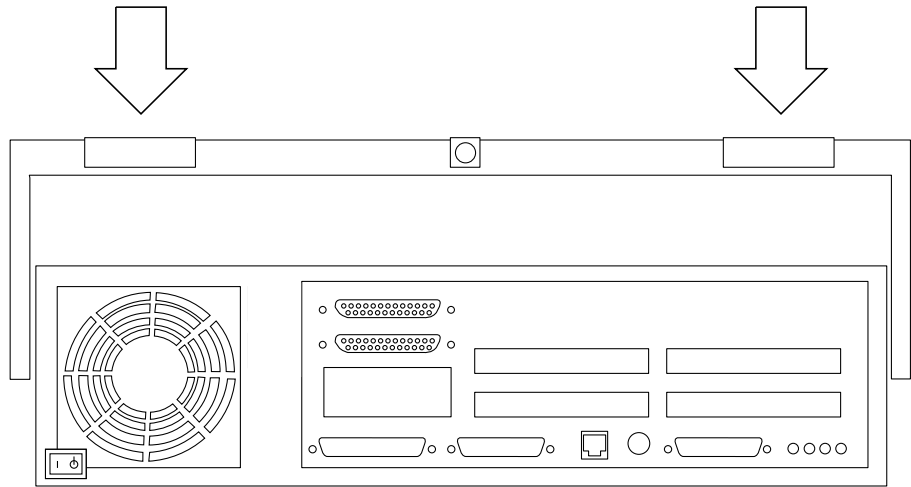

Figure 6-3 Lowering the Cover Onto the System Unit Back Panel
3. Slowly lower the cover onto the system unit so that the rear of the cover seats with the chassis back panel (Figure 6-3).